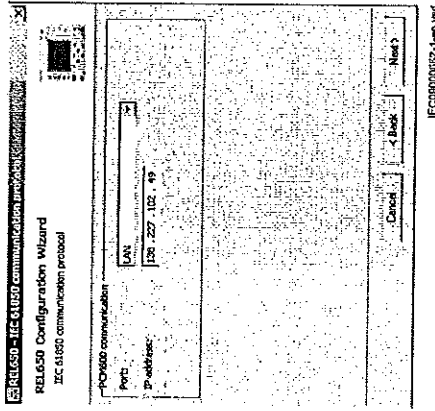

Figure 30: Alternative 1: IP address via first Wizard window
- Via the first window of the wizard when including a new IED in a project, see Figure 30.